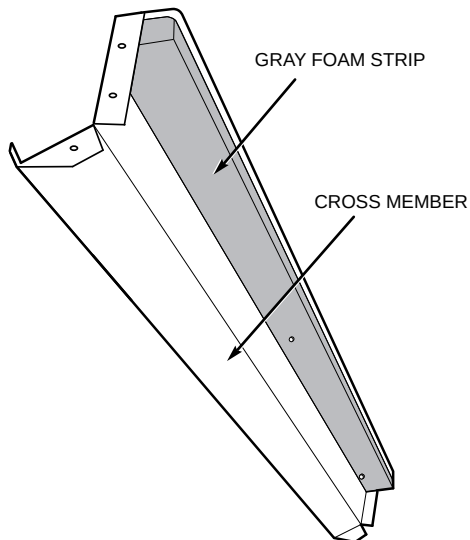

Fig. 22 — Adding Foam Strip to Cross Member
6. Add gray foam strip (provided in package) to cross members on bottom tray. See Fig. 22.